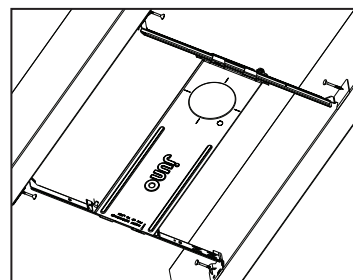
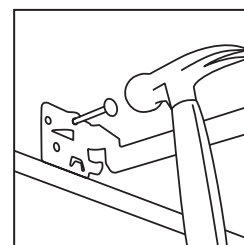

Figure 7
Figure 8
**Step 1.** Extend bar hangers to fit between joists. Bar hanger foot is contoured to easily align with bottom of joist (Fig. 7). Position fixture by hammering Real-Nails® into joists (Fig. 8).